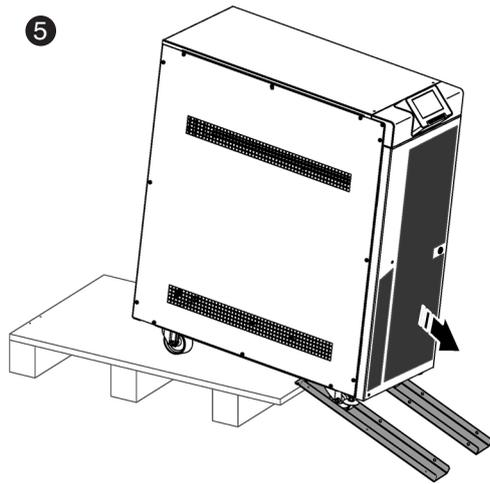

Fig. 26. Lowering the equipment from the pallet.
- 5 Proceed to lower the equipment from the pallet (Fig. 26).